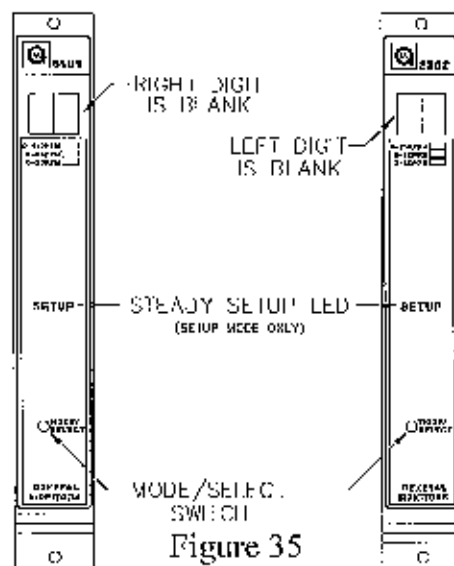

Figure 35
- This option applies to the Setup Mode only:** If the Password is disabled, the unit will return to normal operation. If the Password is enabled, the user will be able to enter a new password. The unit will display the left digit of the existing Password, flashing on the display. The right digit will be blank until the left digit has been selected. Press the Mode/Select switch repeatedly until the desired value is displayed. Once the left digit is correct, wait for five seconds and the right digit of the display will begin flashing and the left digit will be blank. Press the Mode/Select switch repeatedly until the desired value is displayed. Wait about five seconds and the unit will return to normal operation, completing the Setup Mode (figure 35).